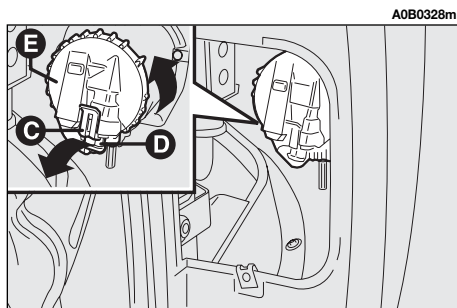

fig. 34
- Release catch (**C**-fig. 34) and disconnect connector (**D**) from the light unit.
— Refit cover (**E-fig. 34**) and reconnect connector (**D-fig. 34**) to the light unit.